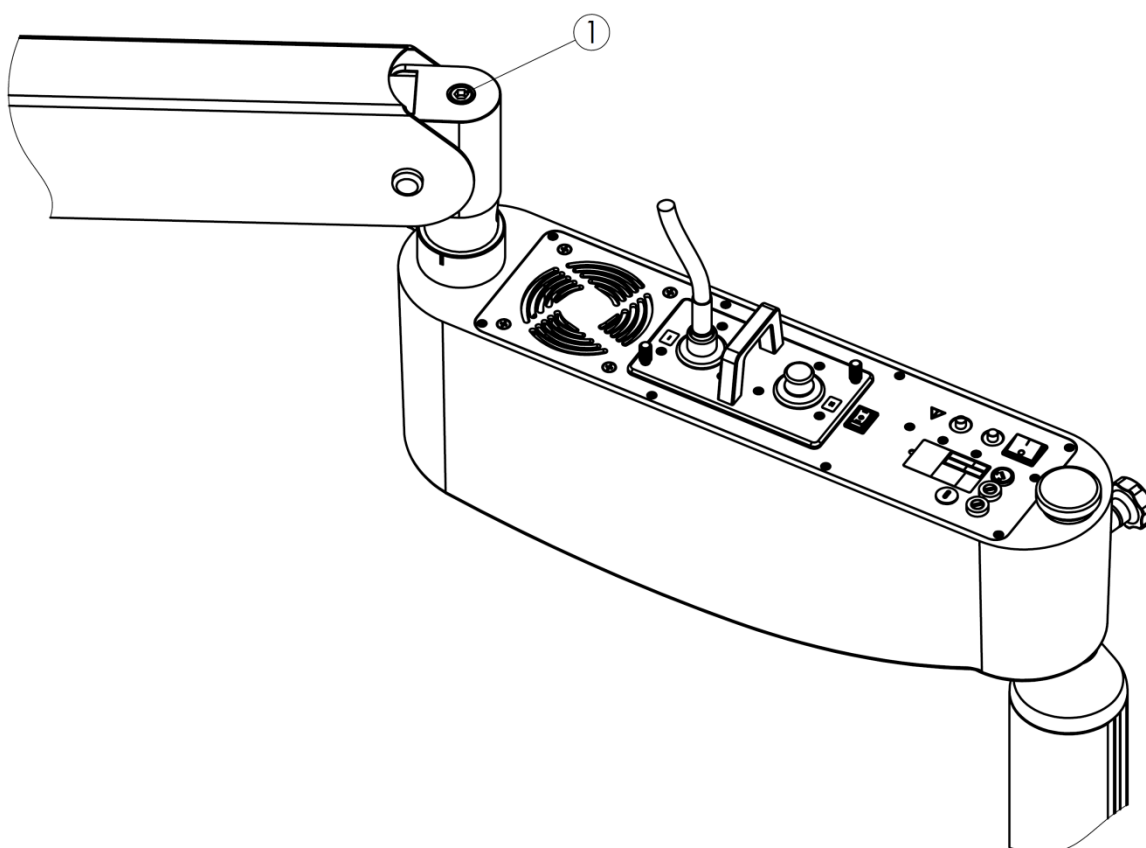
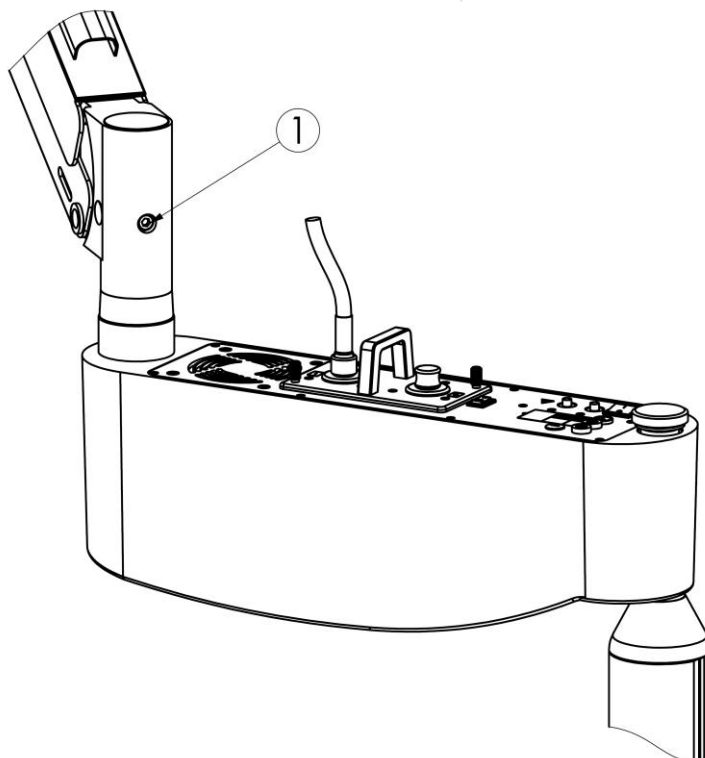

Fig. 12
Fig. 13
The weight adjustment of the suspension arm is set at the factory to the requirement on delivery. The suspension arm adjustment may have to be aligned when components are used on or removed from the device head. (Anti) clockwise adjustment of the Allen screw (1) is used for this. The position of the adjusting screw is shown on Fig. 12 resp. Fig. 13